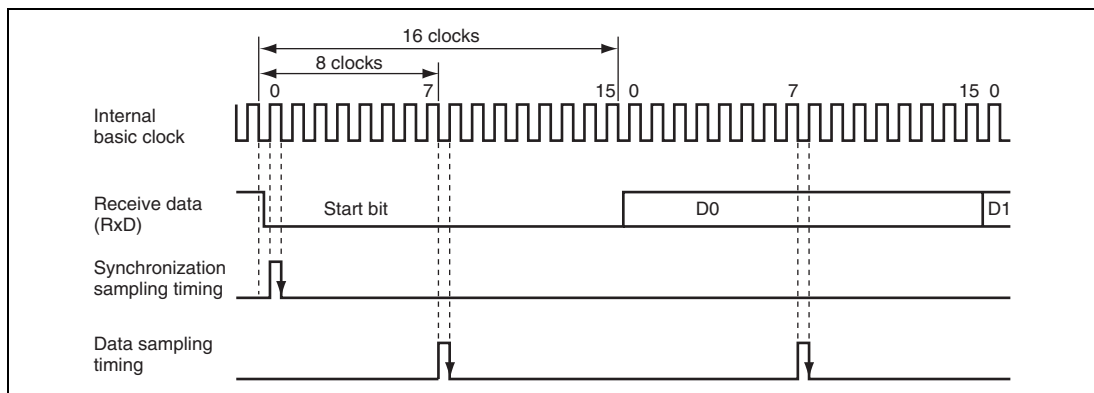

**Figure 15.3 Receive Data Sampling Timing in Asynchronous Mode**
In asynchronous mode, the SCI operates on a basic clock with a frequency of 16 times the bit rate. In reception, the SCI samples the falling edge of the start bit using the basic clock, and performs internal synchronization. Since receive data is latched internally at the rising edge of the 8th pulse of the basic clock, data is latched at the middle of each bit, as shown in figure 15.3. Thus the reception margin in asynchronous mode is determined by formula (1) below.